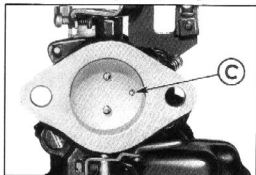

Fig. 10—Correct Assembly of Throttle Valve
1. If the throttle valve has been removed, care must be used to make sure the letter "C" stamped on the valve is toward the idle port when reassembling as shown in Fig. 10.